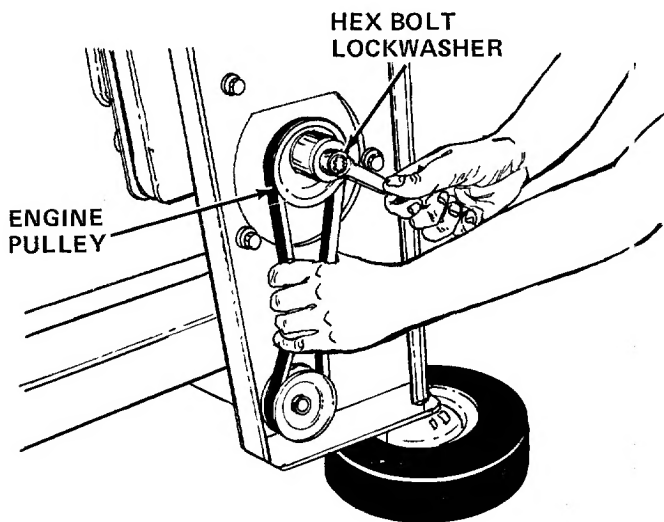

FIGURE 14
5. Using a 9/16" wrench, remove the engine pulley by removing the hex bolt and lock washer. See figure 14. Slip the pulley and belt off.